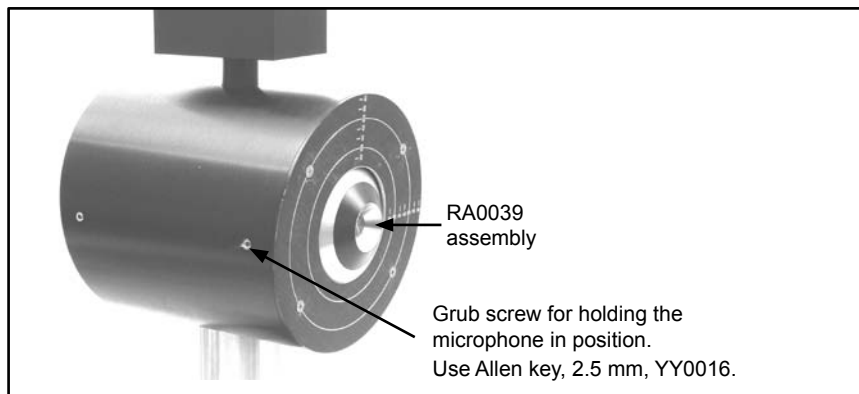

Fig. 5.16
9. Insert the RA0039 assembly firmly into the recess (Fig. 5.16)